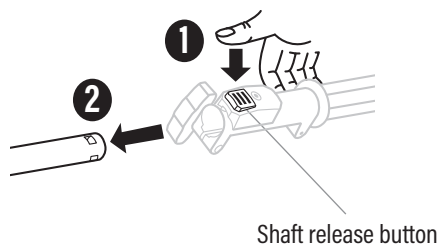

Fig. 6B
3. Press the shaft release button (Fig. 6B, 1) and then, pull the attachment shaft (Fig. 6B, 2) out from the powerhead shaft to remove it.